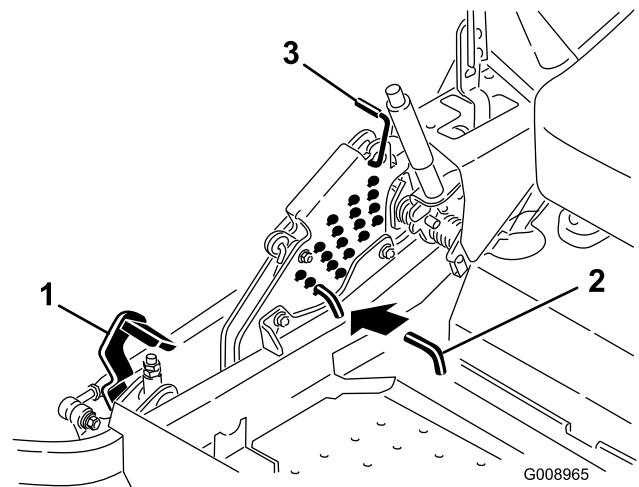

Figure 89
5. Push the deck lift pedal all the way forward and the deck will latch at the 5 1/2 inch (14 cm) transport position (Figure 89).